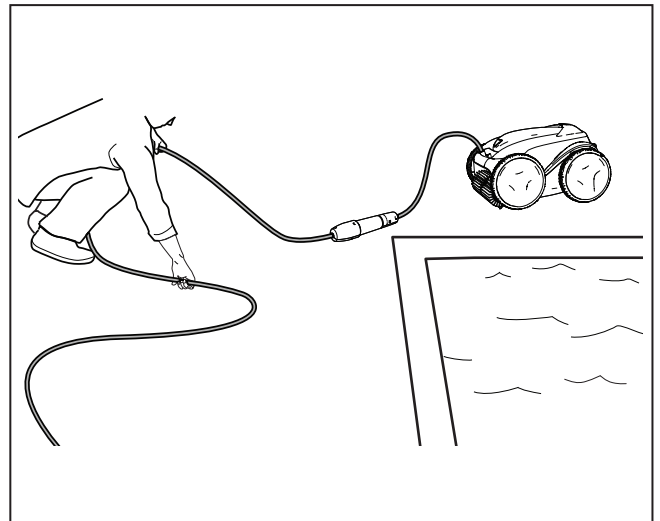

Figure 22. Untangle the Floating cable
4. Starting at the cleaner head. Remove all coils and tangles from the cable (Figure 22). Lay the cable in the sun to loosen any tangling memory.